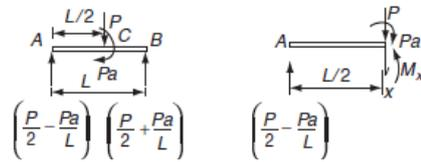

**Figure 1** Question 3.
3. A simply supported beam carries a load  $P$  through a bracket as shown in Figure 1. The maximum bending moment in the beam is: